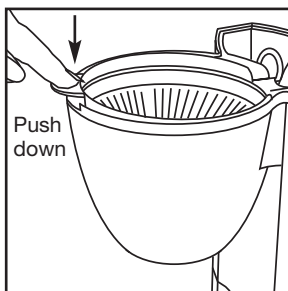

FIG. 8
3. Make sure the filter holder (Fig. 1,C) sits firmly in the Filter Holder Housing (Fig. 1,F). Push the tab of the filter holder down (Fig. 8) to make sure the filter holder sits firmly in the Filter Holder Housing. If the filter holder is not snapped into the housing, the drip stop in the filter holder might not open during brewing and hot water and grinds could overflow and leak from the machine.